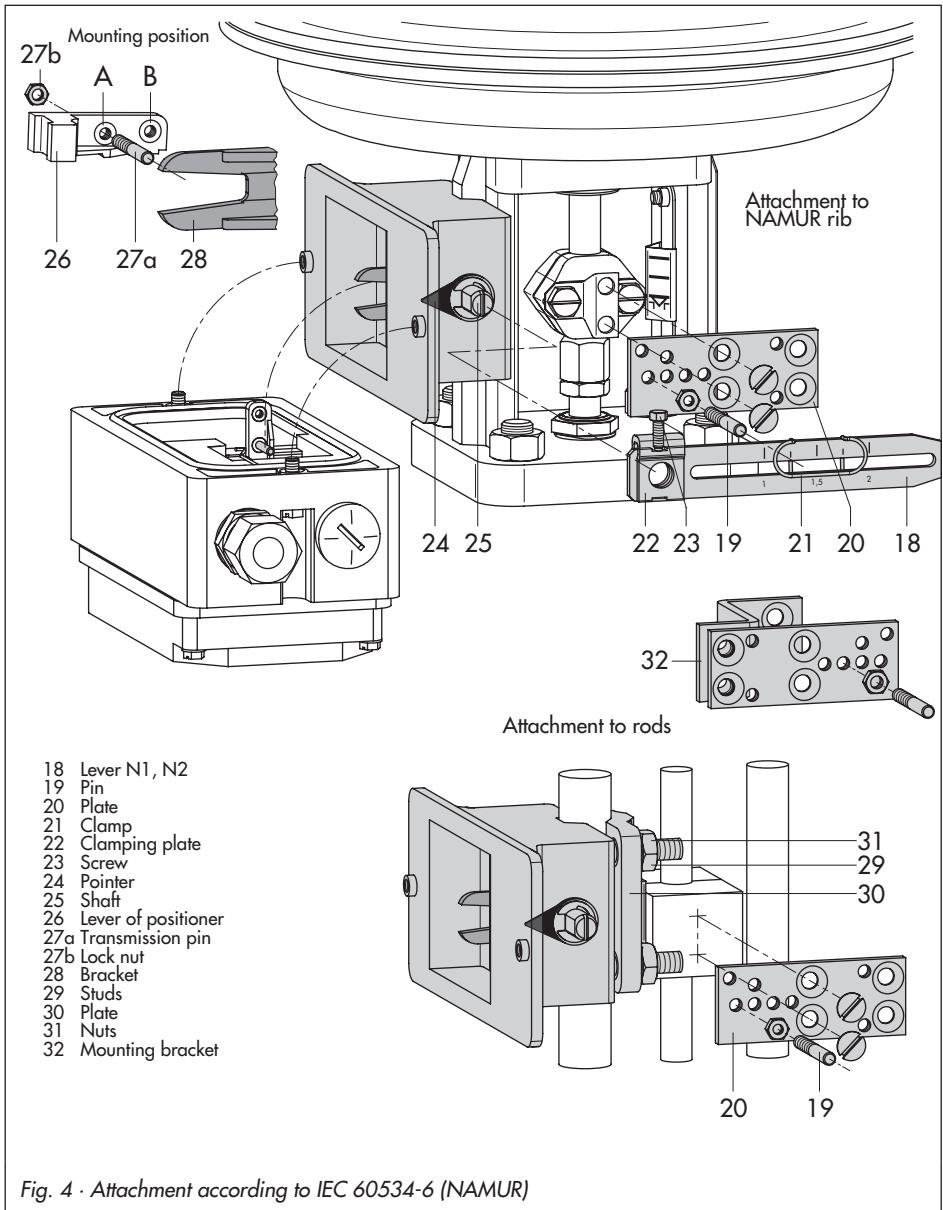

Fig. 4 · Attachment according to IEC 60534-6 (NAMUR)
For positioner attachment according to NAMUR as shown in Fig. 4, an adapter housing is required. The valve travel is transmitted over the lever (18) and shaft (25) to the bracket (28) of the adapter housing and then to the pin (27) located on the positioner lever.